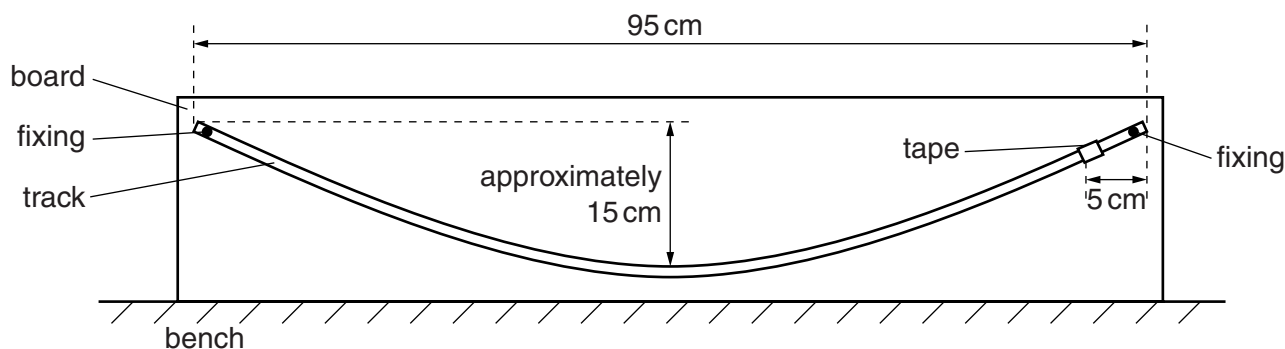

Fig. 2.1
- 2 The plastic track should be attached to the board at each end so that it forms a curve, as shown in Fig. 2.1. Spacers should be used if necessary so that the spheres can roll along the track without touching the board.
- 3 The board should be securely mounted vertically on the bench as shown in Fig. 2.1, e.g. using two retort stands.